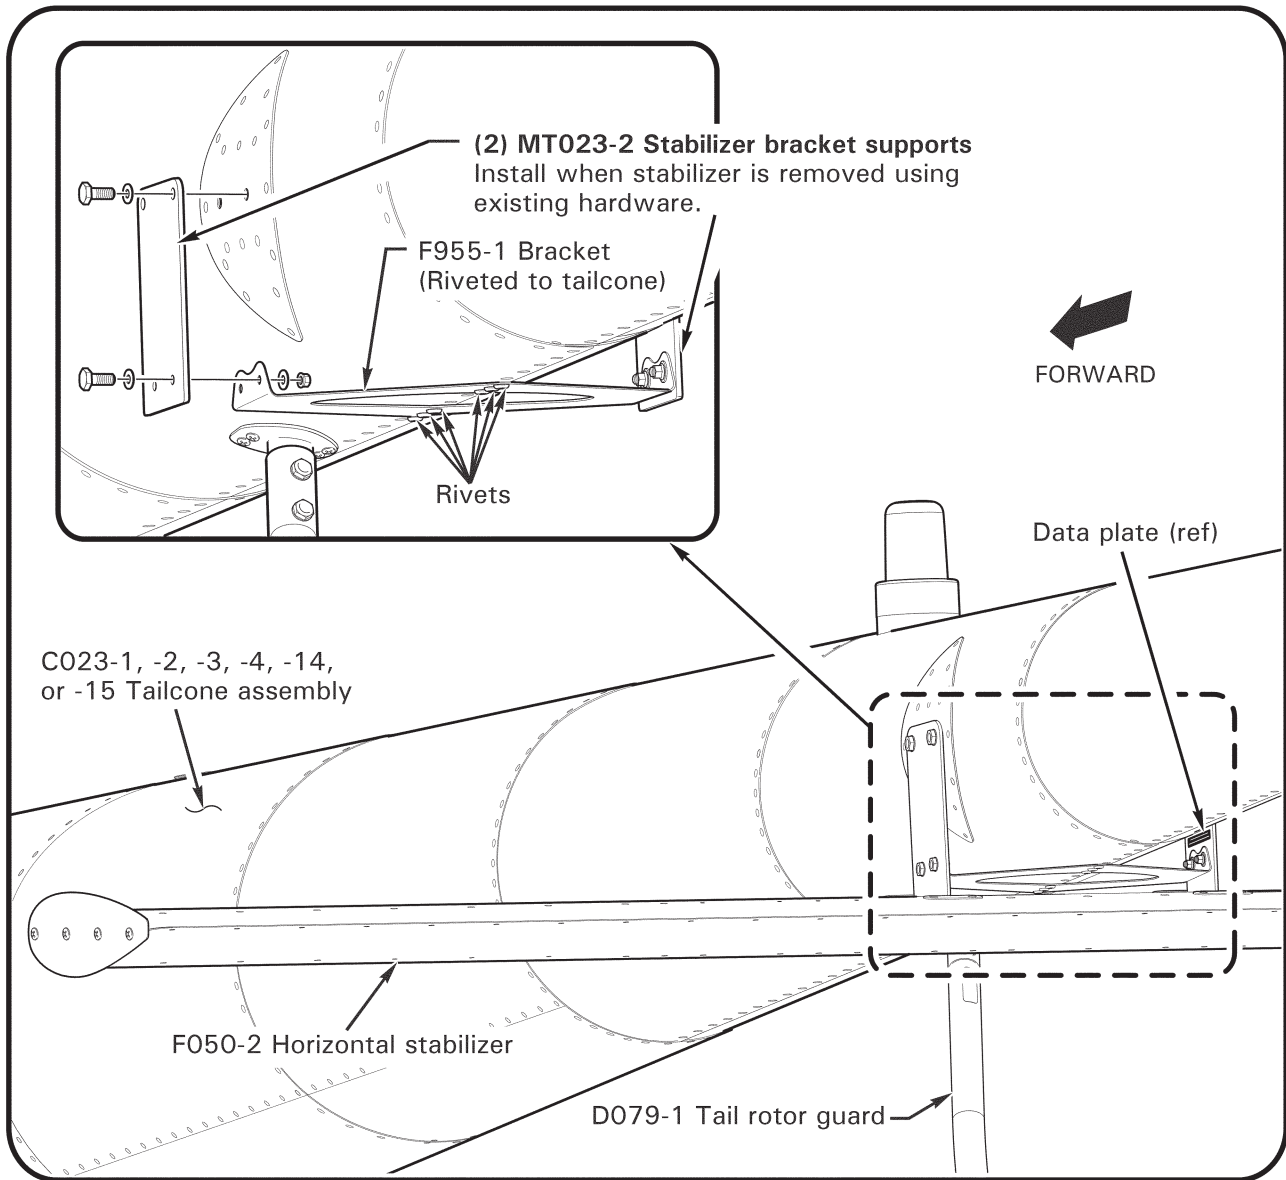

FIGURE 4-6 F050-2 HORIZONTAL STABILIZER ASSEMBLY
1. Refer to Figure 4-6. Remove hardware securing F050-2 horizontal stabilizer assembly to F955-1 bracket.